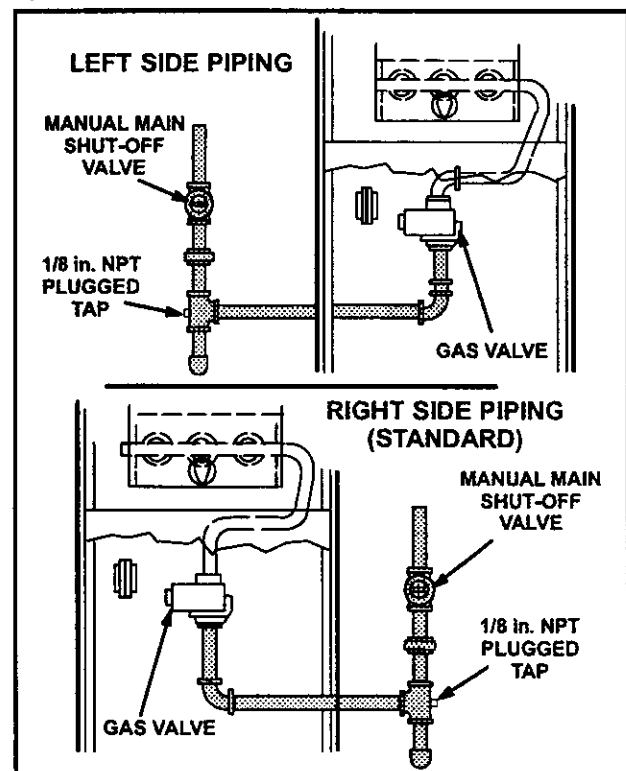

FIGURE 24
- 1 - Gas piping may be routed into the unit through either the left- or right-hand side. Supply piping enters into the gas valve from the bottom of the valve as shown in figure 24.
- 3 - The gas piping must not run in or through air ducts, clothes chutes, gas vents or chimneys, dumb waiters or elevator shafts. Center gas line through piping hole. Gas line should not touch side of unit. When left-hand gas plumbing is required, gas line should be installed in the lower half of knockout so that piping will clear combustion air inducer. See figure 24.
NOTE - Install a 1/8 inch NPT plugged tap in the field piping upstream of the gas supply connection to the unit. The tap must be accessible for test gauge connection. See figure 24.